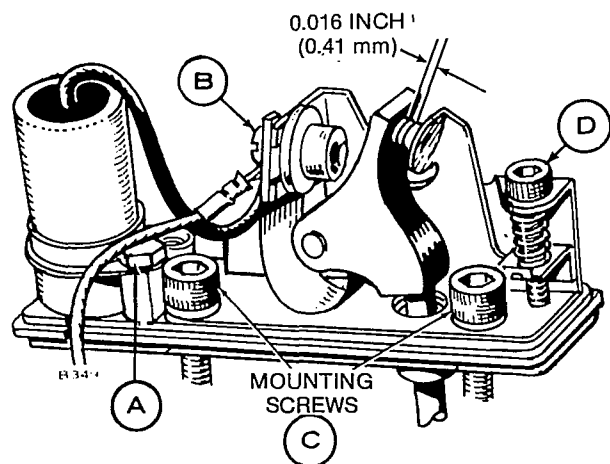

FIGURE 10. BREAKER POINT ADJUSTMENT (BEGIN SPEC C)
3. Remove condenser (screw A) and detach condenser lead and coil lead (screw B), Figure 10.
4. Remove two Allen screws (C) and lift breaker assembly from engine.
6. Using Allen wrench at screw (D) adjust point gap at 0.016 inch (0.41 mm) using a clean, flat thickness gauge.